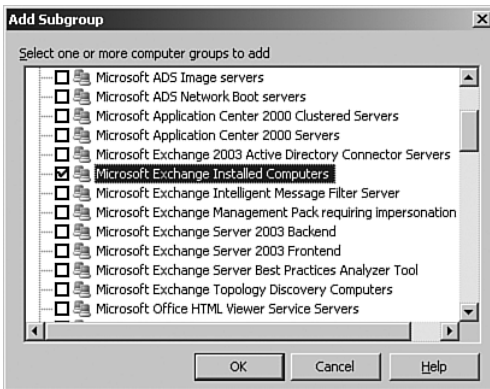

FIGURE 16.6 Adding subgroups to deploy the client pack.
2. From the Included Computers tab click Add and select individual computers to which you want to deploy the client pack. From the Included Subgroups tab, you can add computer groups as shown in Figure 16.6.